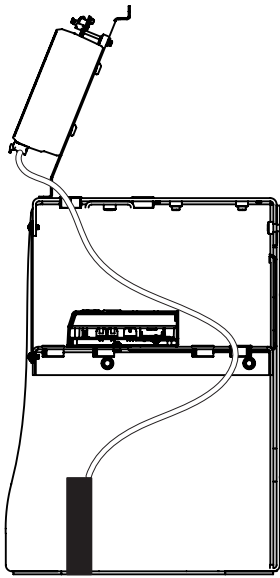

Figure 61. Route Relay Wires
2. Route the relay wires to the SmartCNX Controller (Figure 61).